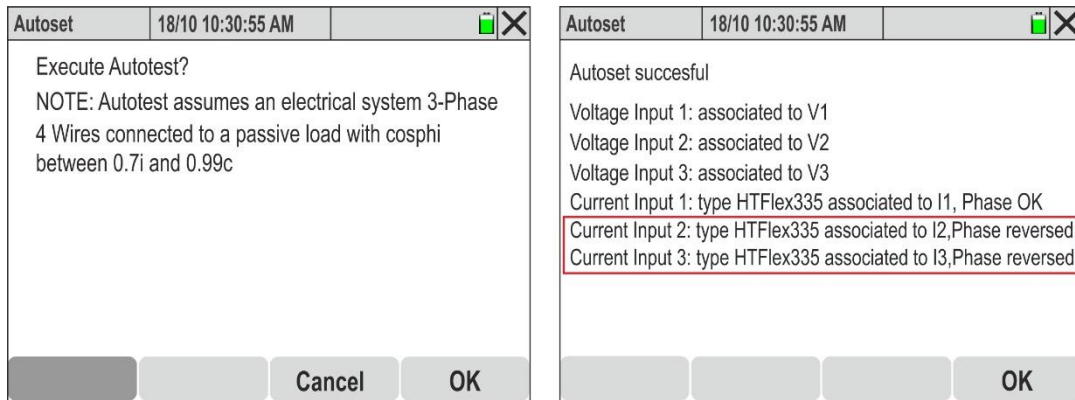

Fig. 74: Autotest execution with connection errors (clamps reversed)
10. The Fig. 74 - right part shows an example in which the Autoset function has detected and **automatically corrected** the presence of an incorrect phase difference between the voltages and currents on phases L2 and L3 due to an **incorrect connection of the current clamps (clamps 2 and 3 reversed on the respective conductors)**